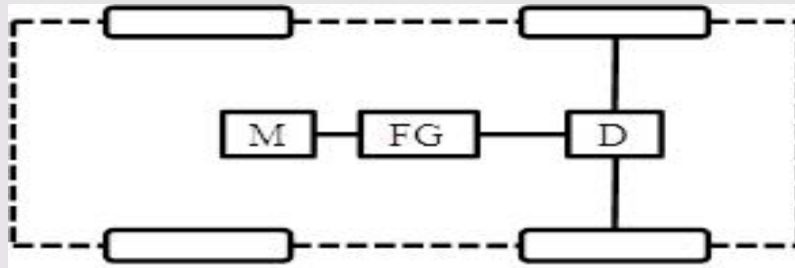

Figure 3b: EV configuration without clutch and gearbox
- In **Figure 3b** a single EM configuration without the gearbox and the clutch is shown. The advantage of this configuration is that the weight of the transmission is reduced. However, this configuration demands a more complex control of the EM to provide the necessary torque to the wheels.